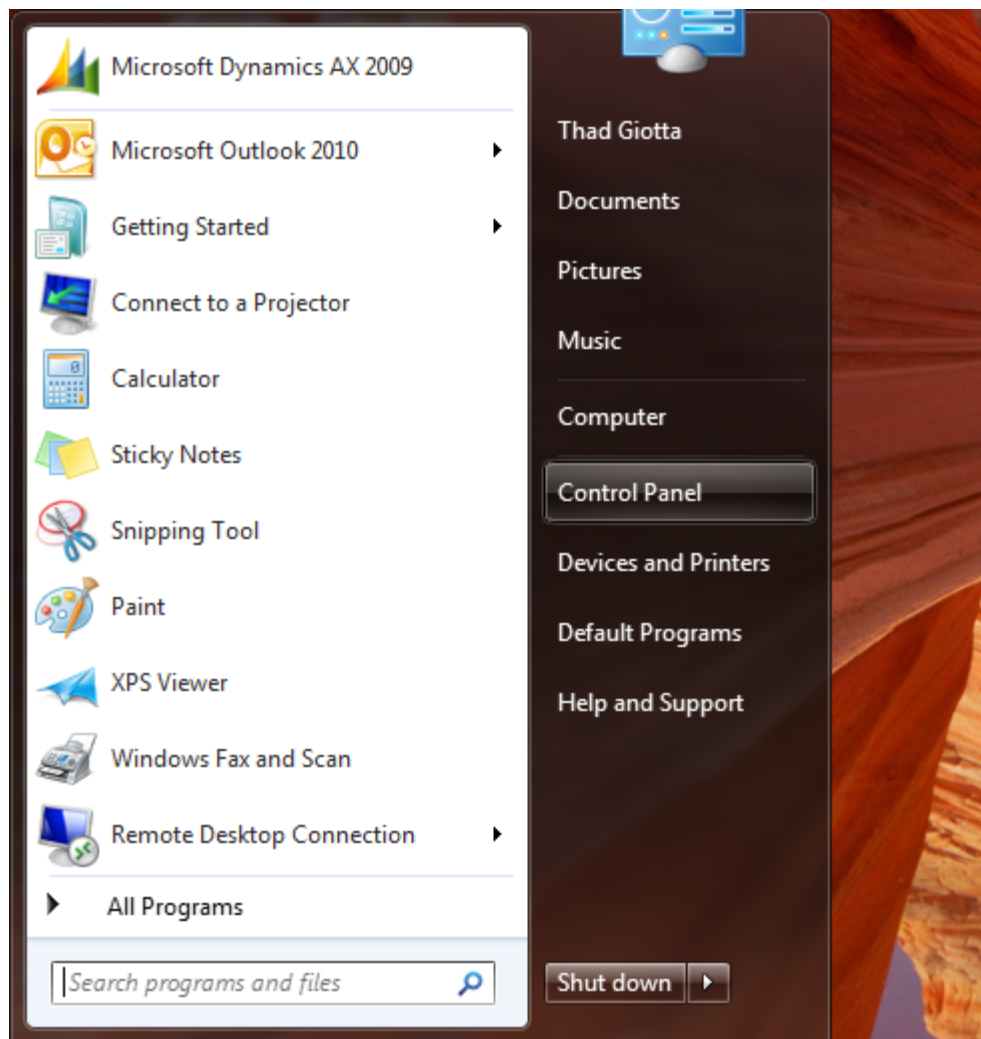

Figure 35 - Windows Start Button
- From the desktop click on the Windows start button and select the "Control Panel". See Figure 35 below.